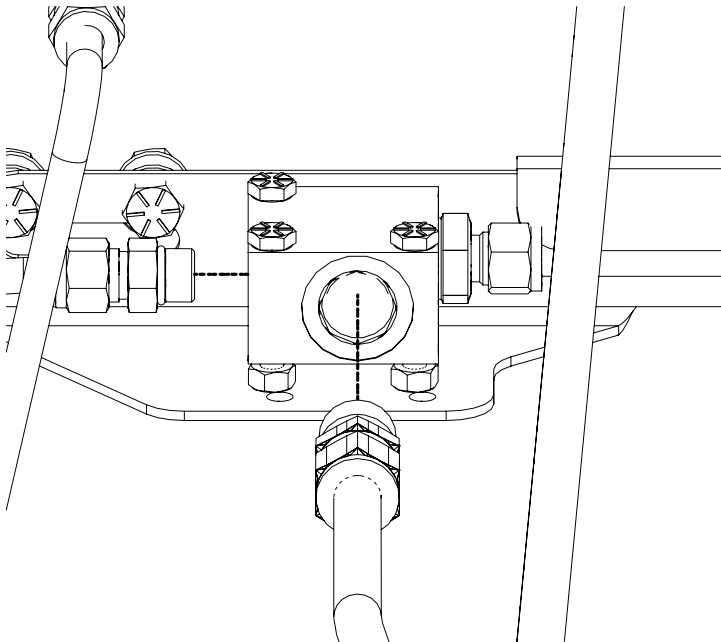
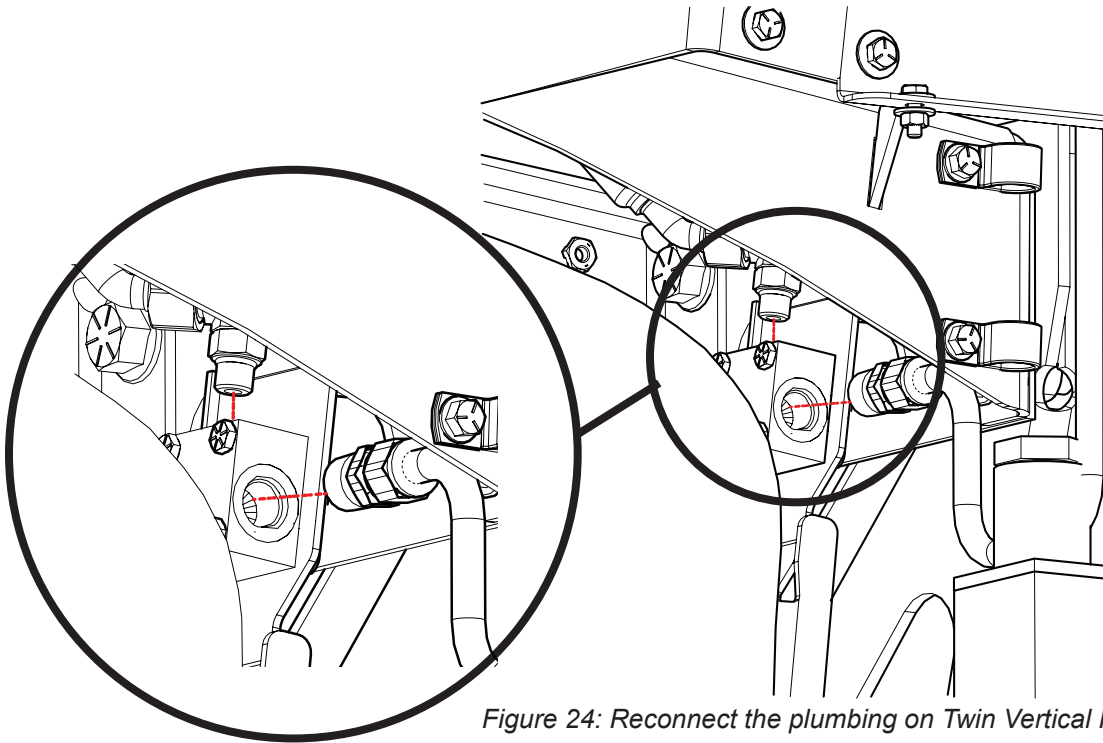

Figure 23: Reconnect the feed and vent fittings on the PRD.
Figure 24: Reconnect the plumbing on Twin Vertical Mount.
23. Connect the feed and vent line fittings to the PRD (Figure 23 or Figure 24 depending on system configuration).